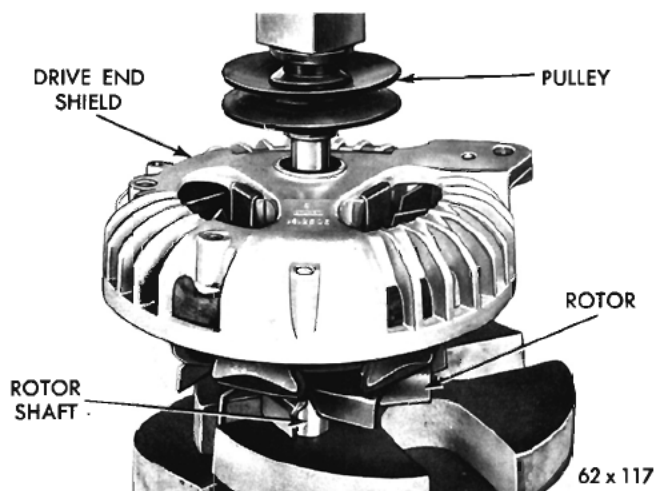

Fig. 39—Installing the Alternator Pulley
(9) Install the pulley on the rotor shaft. The shaft of the rotor must be supported in a manner so that all pressing force is on the pulley hub and rotor shaft (Fig. 39).